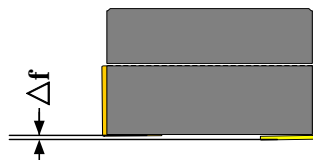

**Fig.3-1**
Dimensions and recommended PCB pattern for reflow soldering, refer to Fig.3-1 and Table 3-1.
- ※ Nominal DCR is measured from point a to point b. (refer to Fig. 3-1)